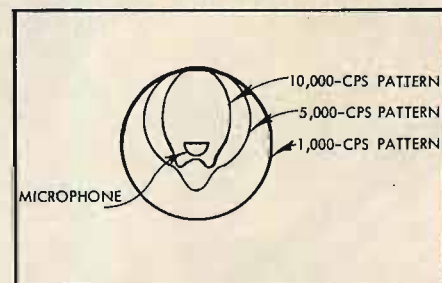

Fig. 16. Variation of pick-up pattern of an omnidirectional microphone with frequency.
Probably the most widely used microphones although not necessarily the best in all situations, are those with an omnidirectional pattern, shown at (A), which pick up sound about equally well in all directions. Actually, as shown in *Fig. 16*, these microphones tend to be somewhat directional as frequency increases. Here the pick-up pattern is plotted for three different frequencies, and it may be seen that the pattern is more directional at 10,000 cps than at 1000 cps.